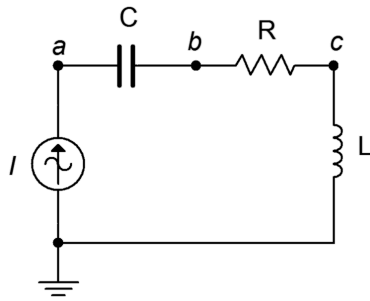

Figure 2.28
46. For the circuit of Figure 2.28, determine v_{ac} , v_b and v_c . The source is a 10 mA peak-peak sine at 50 kHz, $R = 2 \text{ k}\Omega$, $C = 10 \text{ nF}$ and $L = 800 \text{ }\mu\text{H}$.